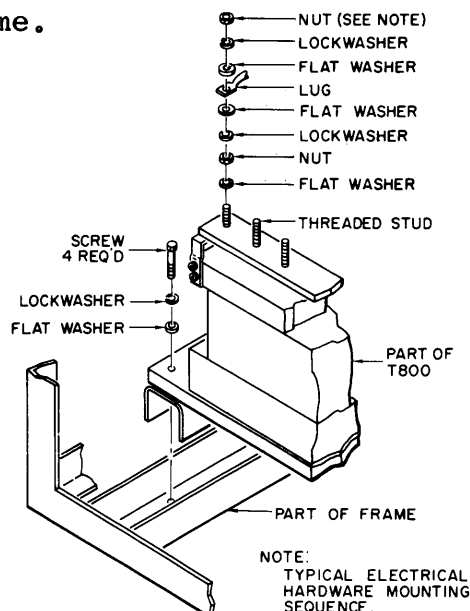

Figure 4-9. Transformer T800, Installation Diagram.
c. Position power transformer T800, figure 4-9, into bottom front of second frame.